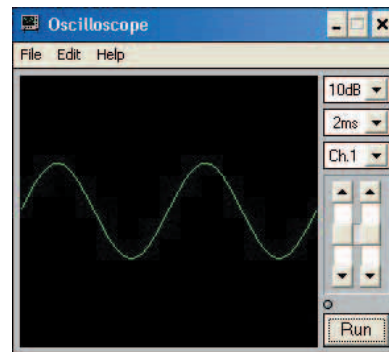

Fig.7.23. The 1kHz output of the signal generator displayed using the virtual oscilloscope tool
Fig.7.24. Spectrum analyser tool settings required to display the frequency spectrum of the 1kHz sine wave shown in Fig.7.23. Note the single frequency that is present (1kHz) and the "noise" floor that is evenly distributed in frequency
3. Click on the oscilloscope icon to start the oscilloscope tool and set the controls to 10dB (vertical attenuator), 2ms (timebase), and Channel 1 (you may also need to adjust the slider control (vertical position) in order to obtain a trace that is vertically centred on the display). Click on "Run" in order to display the waveform (you can click this button a second time in order to "freeze" the display). The waveform displayed should now be similar to that shown in Fig.7.23.